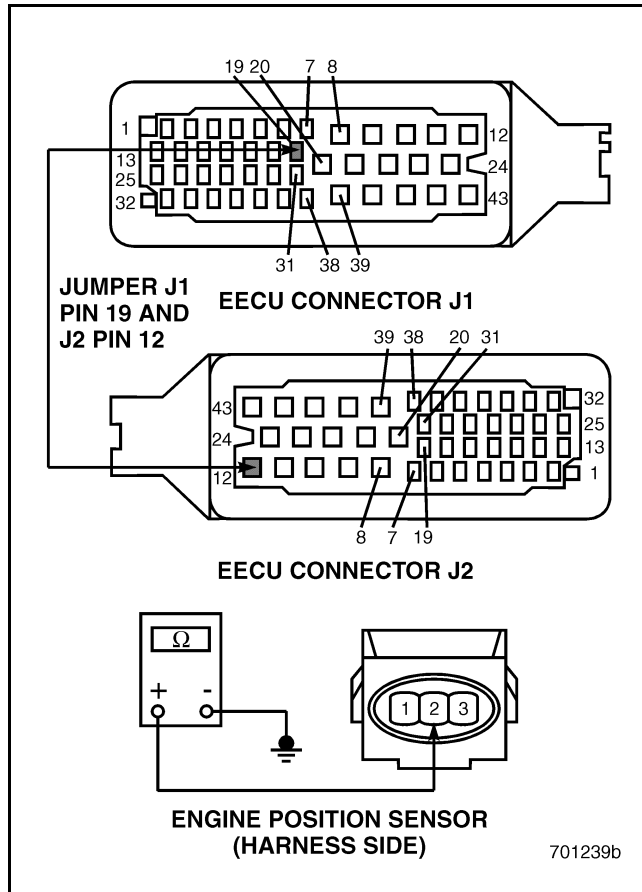

Figure 403
4. Check for continuity between pin 2 on the harness side of the Engine Position (EP) Sensor connector and a good ground (see Figure 403).